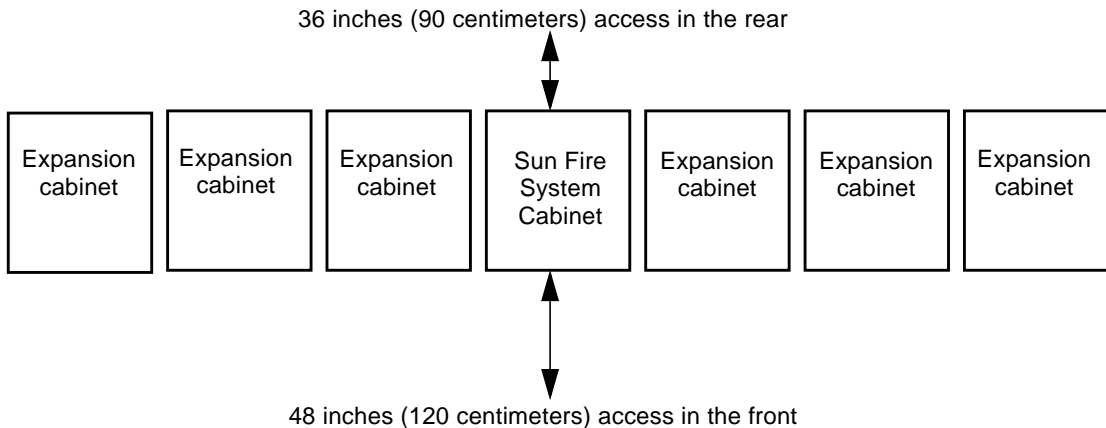

FIGURE 2-1 Sun Fire Cabinet Access Areas—Top View
- The Sun Fire cabinet requires approximately 48 inches (120 centimeters) of space in the front and 36 inches (90 centimeters) in the rear (FIGURE 2-1) for access by service personnel.